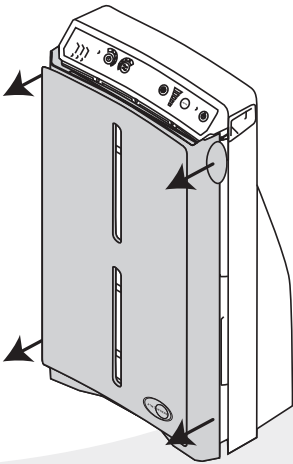

FIG. 18
2. **Remove** the front cover from the Air Purifier using the finger tabs located on each side of the Air Purifier – near the top (Fig. 18). **Steady** the Air Purifier by first placing your thumbs on the outside edges of the control panel. **Remove** the front cover by **gently pulling** on the tabs with your fingers. Then, **pull off** the bottom of the cover.